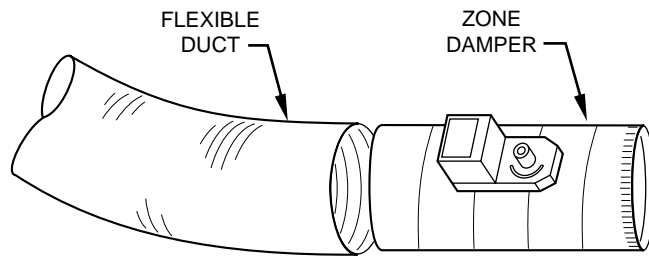

Fig. 5 — Round Flexible Duct Work
1. Slip one end of flexible ductwork over end of zone damper (See Fig. 5).